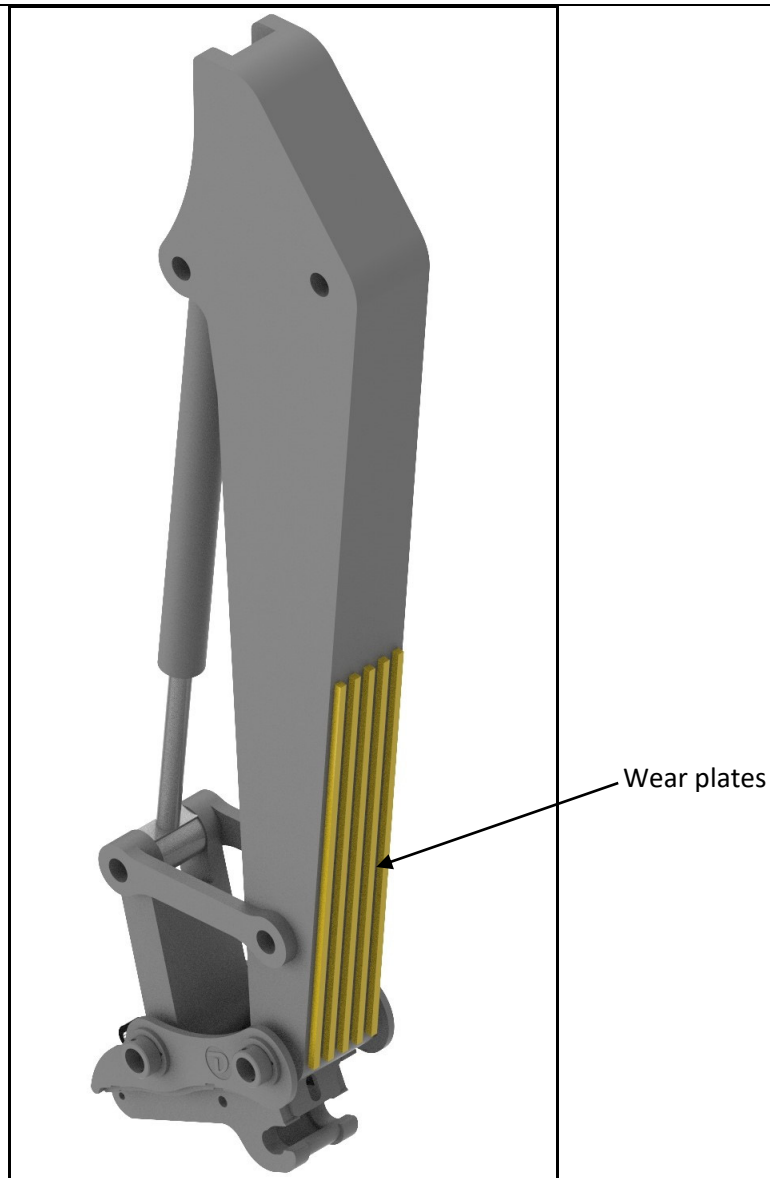

Figure 3 WEAR PLATES
1. Some machines have wear plates welded to the inside of the dipper arm. See Figure 3